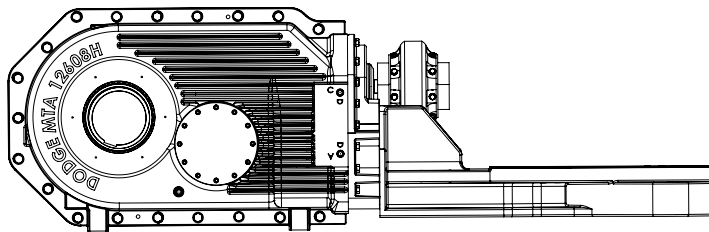

Figure 6 - Reducers with Foot-Mounted Motors Must Be Mounted in Position C as Shown
2. The only recommended running position of an MTA reducer equipped with a foot-mounted motor is Position C, as shown in Figure 6. Note that the reducer is supplied with seven plugs: four around the sides for horizontal installations, two plugs on the front face, and one plug on the back face for vertical installations. These plugs must be arranged so that the filter breather is located in the hole closest to the top of the reducer and the magnetic plug is located in the hole closest to the bottom of the reducer. The highest hole on the side of the reducer is the minimum oil level plug.